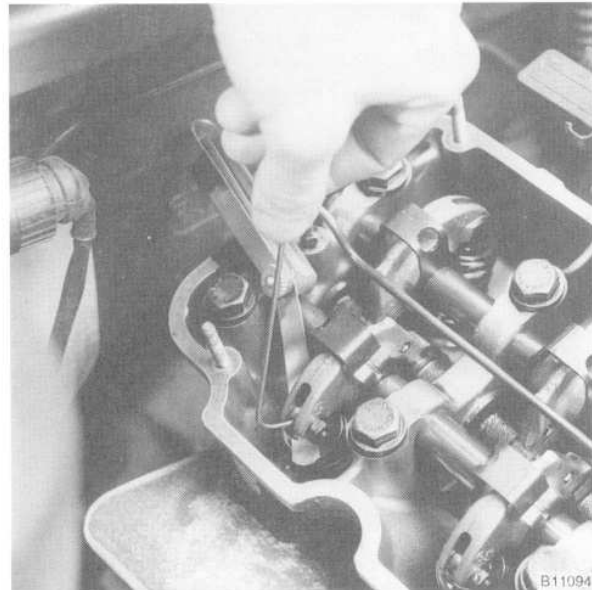

Fig. 16. Valve clearance being adjusted. Stiff wire hook inserted into hole in eccentric.
4. If the valve clearance is incorrect, loosen the setscrew nut (locknut) with a 10 mm box-end wrench. Rotate the eccentric until the specified clearance is obtained and tighten the nut. See Fig. 16.